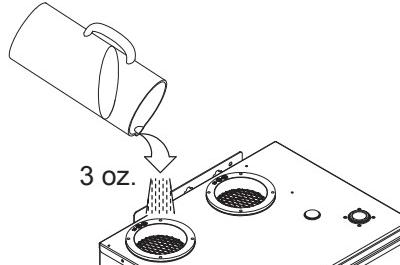

Figure 1.
- Fill 3.0 oz. of water through the exhaust collar per figure 1.